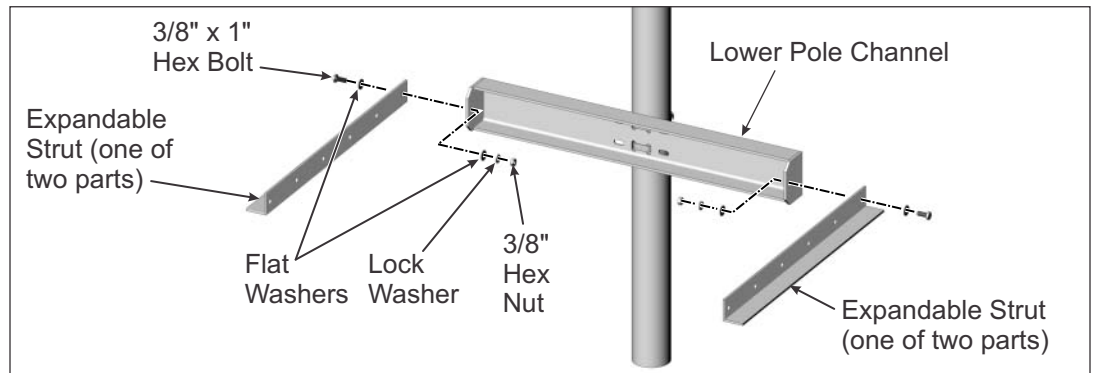

Figure 2-1: Attaching First Half of Expandable Struts to Pole Channel
The Expandable Struts are attached to the ends of the lower Pole Channel using 3/8" x 1" hex bolts and hardware. The Struts are attached/assembled in two stages with one half installed here (See Figure 2-1) and second half installed in Step 4.
- A. Orient and align the Struts as shown in Figure 2-1. Secure with one 3/8" x 1" hex bolt, lock washer, flat washers, and Hex Nut, and finger tighten for now.